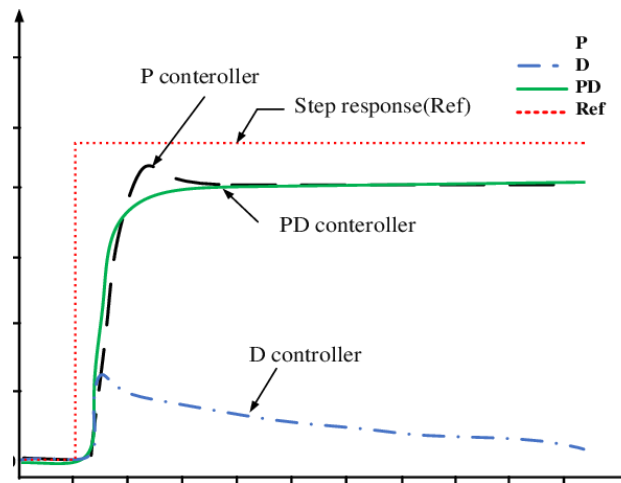

Fig 2: Voltage-time graph for P, D and PD controllers[4]
The output displayed on the oscilloscopes roughly resembles the expected voltage-time characteristics shown in Fig 2, indicating that the experiment yielded the expected outcome. The noise that can be seen on both the step-function as well as the output signal could possibly have been created due to the presence of resistance on the board and connecting leads. The time delays observed for the step function could also be due to the presence of inductive loads at some parts of the load.
4. https://www.researchgate.net/figure/Figure-7-The-P-D-PD-Vs-Step-response_fig2_341979581